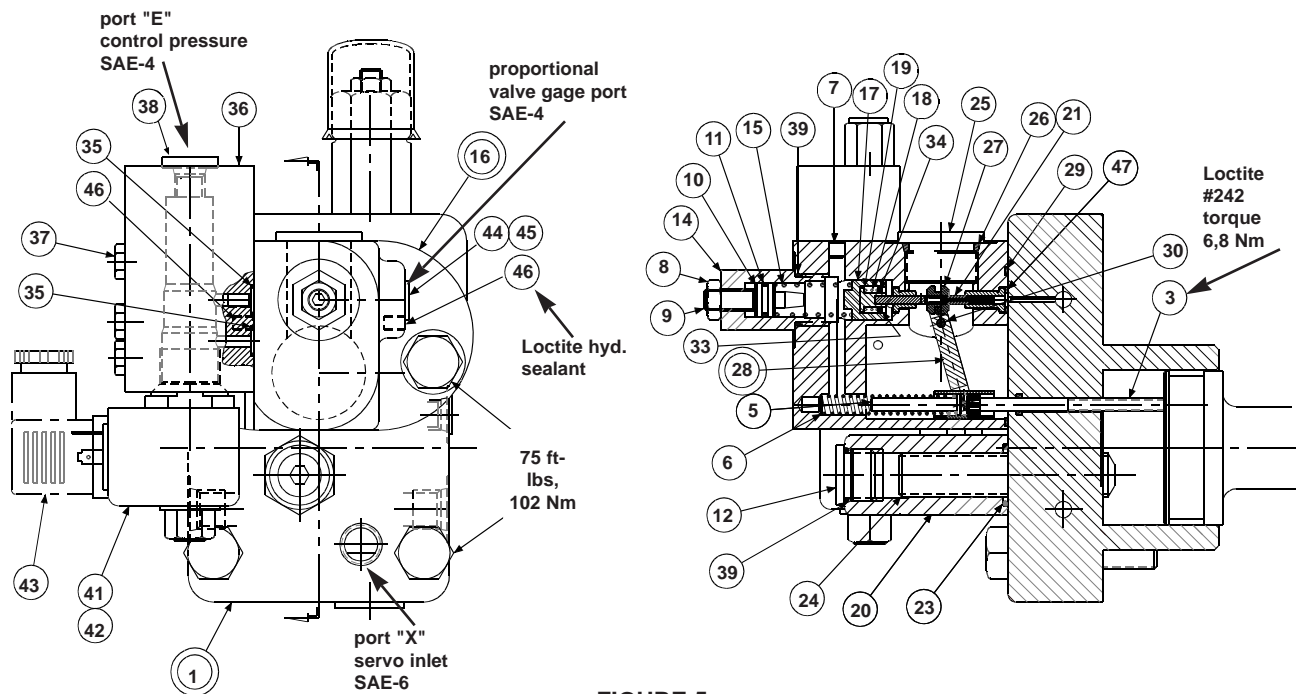
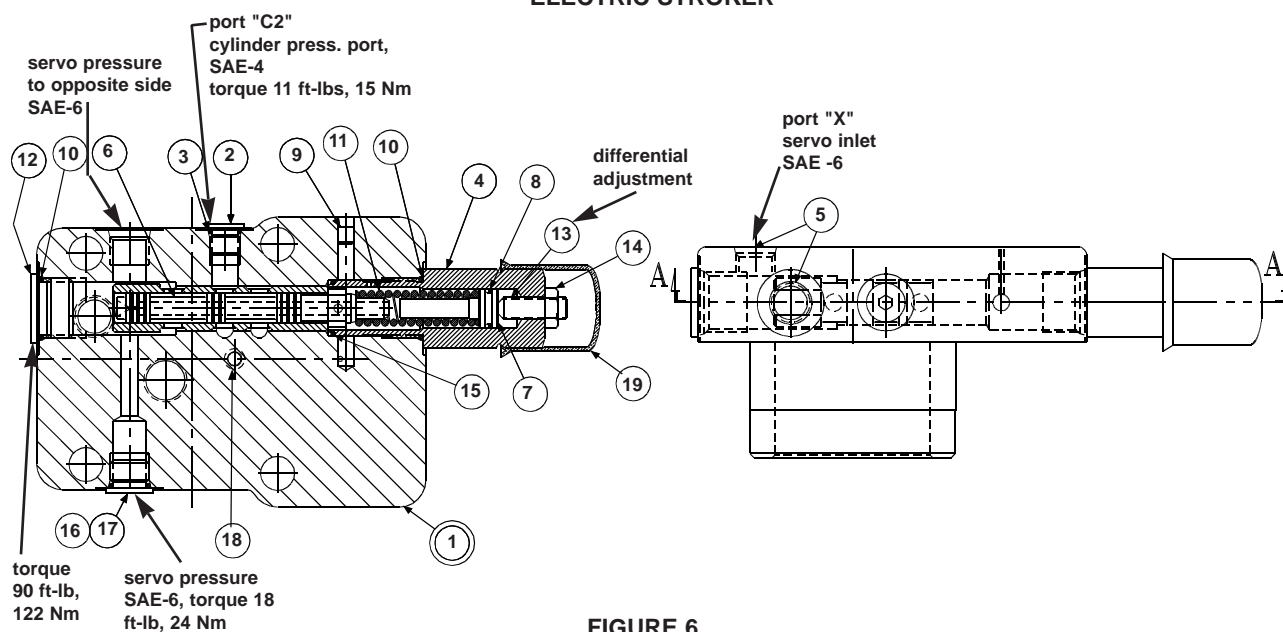

FIGURE 5
FIGURE 6
1. **See Figure 5.** Remove 3 screws (37) holding block (36) to body (16).
2. Remove 2 screws holding body (16) to cap assembly (1).
3. Remove all parts from body (16) except pin (30) and arm assembly (28). It is not necessary to remove these parts unless broken or worn. Examine parts for wear or damage.
4. Remove screw (3). Examine head for excessive wear, and body for smooth sealing surface with O-ring.
5. **See Figure 6.** Remove tube lines to cap assembly.
7. Remove cap assembly (1). Remove plug (4) with attached parts. Remove spring (11) and spool (6).
8. Do not remove sleeve in body (1). Sleeve is pressed into cap and finished to size. If sleeve or cap is worn, replace the cap-sleeve assembly (1).
9. Remove cap (19), screw (13) and nut (14). Remove the retainer (7).
1. **See Figure 6.** Install Avseal plug (9) in cap.
2. Install spool (6) into bore as shown. Install spring (11) over end of spool.
3. Install O-ring (8) on spring retainer (7). Install retainer (7), screw (13), and nut (14) in plug (4).
4. Install O-ring (15) in bottom of bore as shown. Install O-ring (10) on plug (4). Install plugs (4) and (12) in body (1). Torque plugs to 90 ft-lb., 122 N m. Install O-ring (18) in cap.
5. Turn screw (13) in until spring retainer (7) contacts spring (11). Turn an additional 1-1/2 turns and lock in position.
8. **See Figure 5.** Apply Loctite 242 on threads of screw (3), lubricate the shank, thread through the cap into the control piston, and torque to 5 ft-lb., 6,8 N m.
9. Install minimum stop screw (24) and turn clockwise to stroke pump to full volume. Measure height from control cap to top of screw (3). With control piston at full stroke, dimension must be 0.75 +/- .03 in., 19,2 +/- 0,76 mm. Back out minimum stop screw (24) till there is no contact with control piston.
10. Press dowel (30) into body (16), through the link (28), to 0.25 in., 6,35 mm below surface, apply Loctite hydraulic sealant to threads of screws (46) and install over dowel (30).
11. Press spool (21) into retainer (19). Caution: do not use excessive force. Place spool/retainer assembly into spool (17) with spring (18) and washer (34). Secure with retaining ring (33).
12. While sleeve (27) is engaged into dowel on link (28), slide above spool assembly into bore of body (16), and through sleeve (27). Spool (21) must move freely and easily at all positions of the link (28).
13. Install proportional valve (41) in block. Torque to 20 ft-lb., 27 N m.
15. Assemble all other components into body (16) per figure 5. Torque the plug (12) to 90 ft-lb., 122 N m.
16. While spring retainer is engaging clevis pin (5) under dowel of link (28), slide the other opening of spring retainer over the top of the screw (3). Attach body assembly (16) to cap (1) with two screws and torque to 75 ft-lb., 102 N m.
7. If pump fails to go towards full stroke, or fails to go towards zero stroke, differential pressure may be improperly adjusted. Re-adjust the screw (13 figure 6) out to go towards full or in to go towards zero flow. When correct, lock in place and install cap on differential adjustment.
**PARTS LIST FOR FIGURE 5***electric stroker S22-15399*
**PARTS LIST FOR FIGURE 6***servo cap S22-15327*